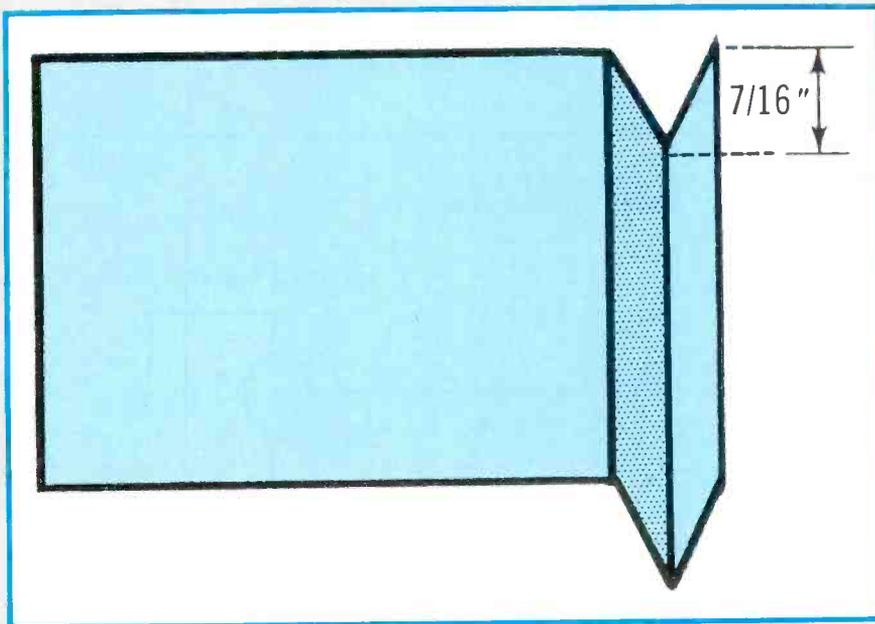

Figure 13. When burring head drums to eliminate stiction, construct this simple shield from a calling card.
- Fold a calling card as shown in Figure 13 and insert it between the drum and the head-bracket assembly.